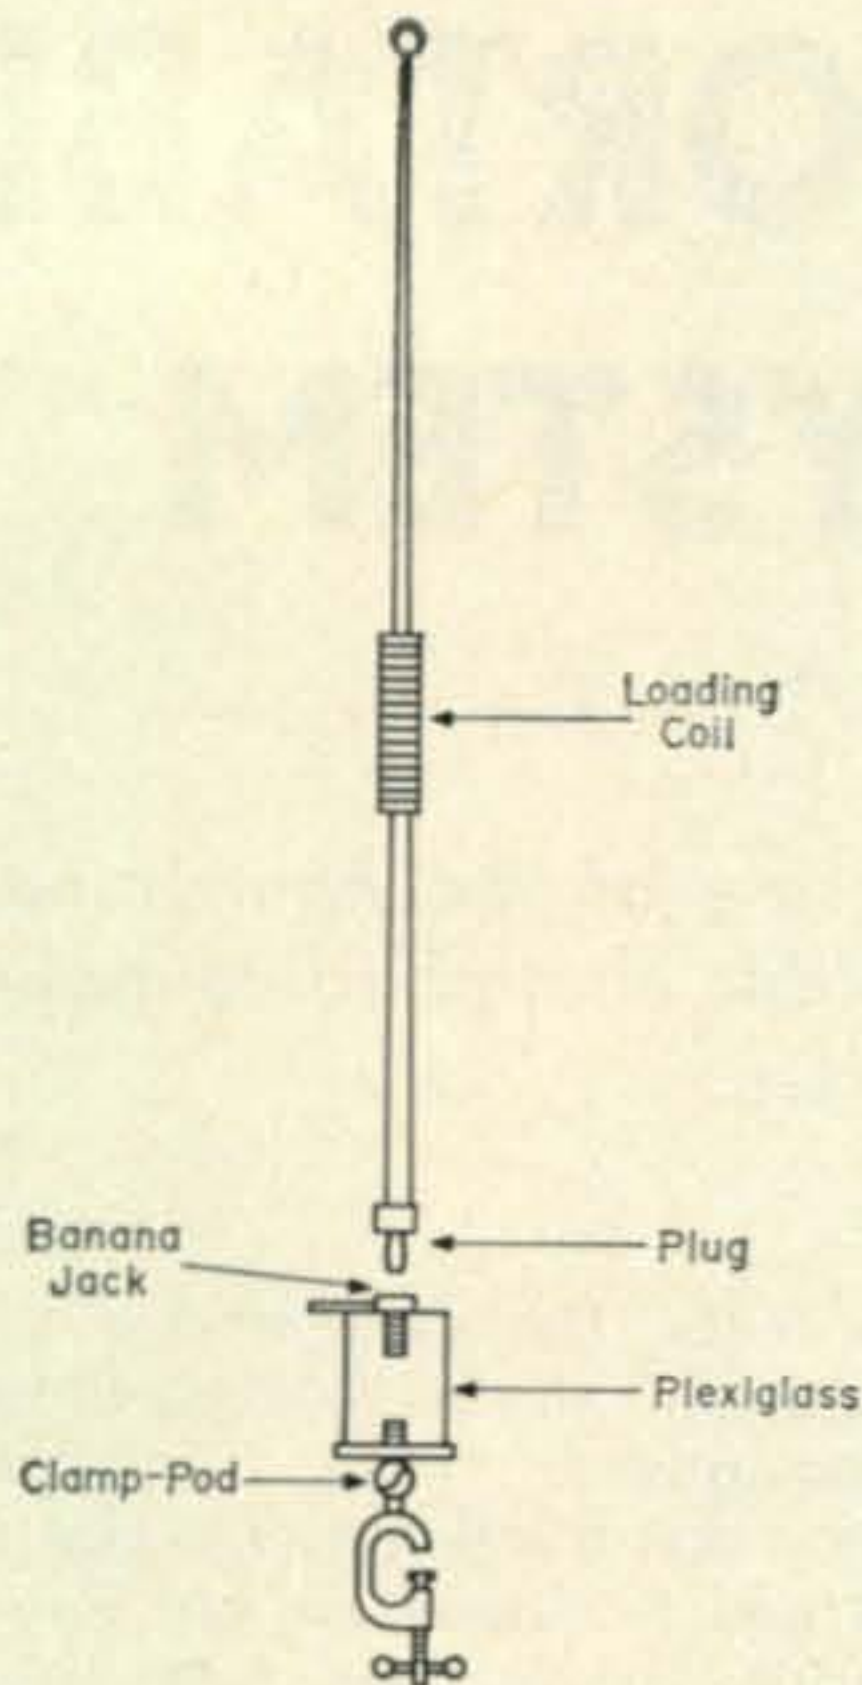

Fig. 2—Whip antenna can be made up from mobile components as described in the text.
section with a Master Mobile #750 loading coil. This is shown in fig. 2.
- 1—Whip antenna (fig. 2)